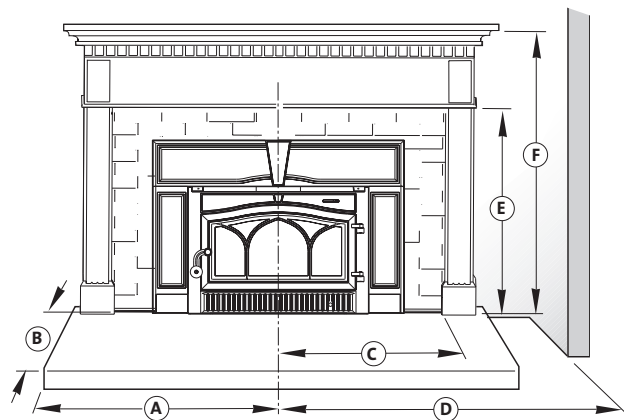

Figure 6. Minimum clearance to combustible materials.
- U.S. & Canada: Sides -** Protection must extend a minimum 18 1/2 in. to both sides of the centerline of the insert. See fig 6, A.